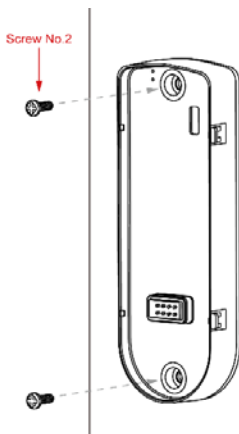

Figure 4-13 Installing the Screws
3. Secure the bracket with screws (No.1 or No.2). Please see Figure 4-13.